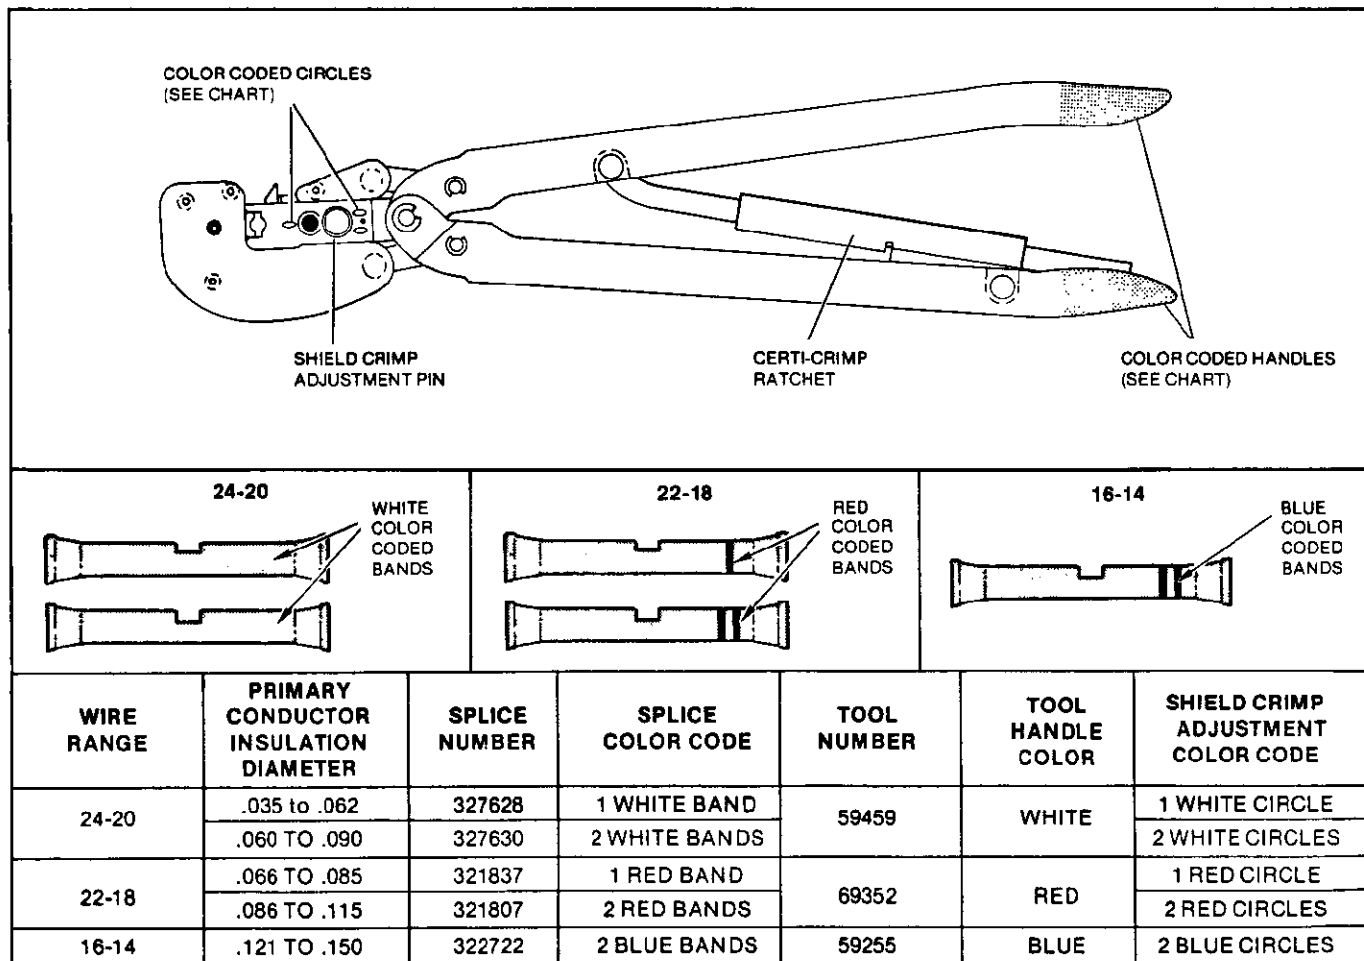

Figure 1
These instructions may be used for tools not listed in Figure 1 but accompanied by this IS. For unlisted tools, use the wire strip dimensions given in Figure 1 for an identical size tool.
Select the proper splice for the size wire to be used and obtain the correct shield crimp adjustment from Figure 1. For example:
- In Figure 1, under column title "wire range", find range of wire being used, 22-18.
- Read across the chart from left to right and find: number 321807 is used; this splice has 2 red bands; use tool No. 69352; tool handles are color coded red; and finally, in the last column, shield crimping adjustment color code is 2 red circles. See Figure 1.
- Using tool No. 69352, insert the shield crimp adjustment pin (Figure 1) next to the 2 red circles stamped on the shield crimping die.
- (d) Open crimping dies by closing handles until CERTI-CRIMP[®] ratchet, see Figure 1, releases. Note that once ratchet is engaged, handles cannot be opened until they are first fully closed.